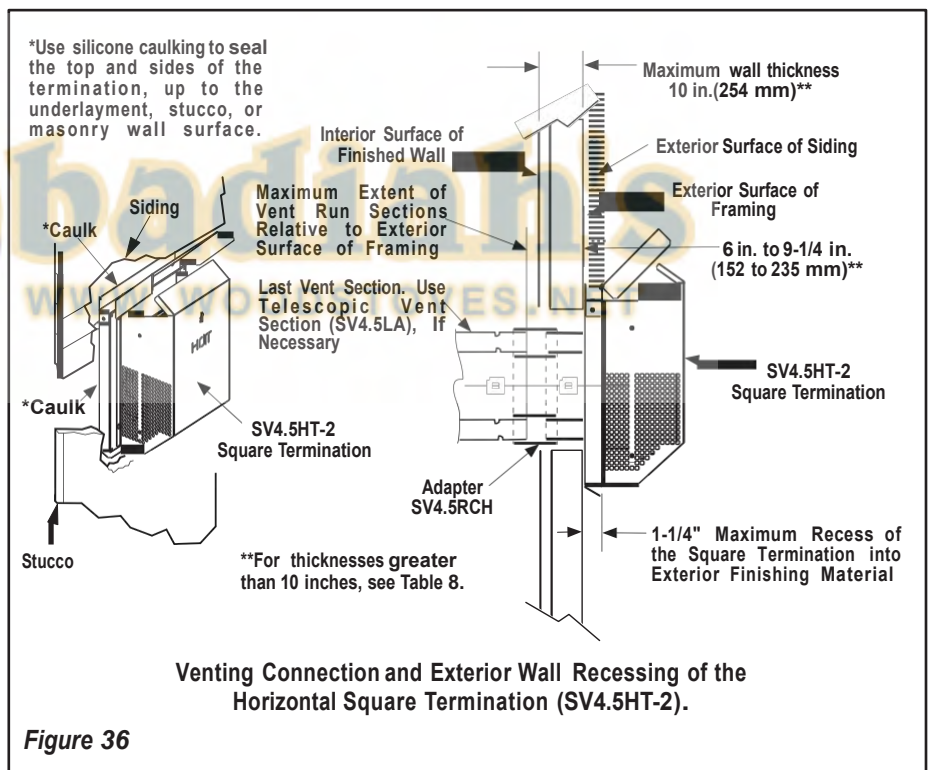

Figure 36
J. Assemble vent run to exterior wall - If not previously measured, locate the center of the vent at the exterior wall. Prepare an opening as described in **Step B**. Assemble the vent system to point where the terminus of the last section is within 7 in. (178 mm) to 11-1/4 in. (286 mm) inboard of the exterior surface to which the SV4.5 HT termination is to be attached, see **Figure 36**. If the terminus of the last section is not within this distance, use the **telescopic vent section SV4.5LA**, as the last vent section. For wall thicknesses greater than that shown in **Figure 36**, refer to **Table 8 on page 24**. This table lists the additional venting components needed (in addition to the termination and adapter) for a particular range of wall thicknesses.
1. Install the square termination (SV4.5HT-2) - For the last step, from outside the exterior wall, slide the collars of the termination onto the adapter (the outer over the outer and the inner inside the inner) until the termination seats against the exterior wall surface to which it will be attached. Orient the housing of the termination with the arrow pointed upwards. Secure the termination to the exterior wall. **The horizontal termination must not be recessed into the exterior wall or siding by more than the 1-1/4" (32 mm) as shown in Figure 36.**
Table 8 Note: See Figure 36 showing wall thickness range when using SV4.5HT-2 termination kit.